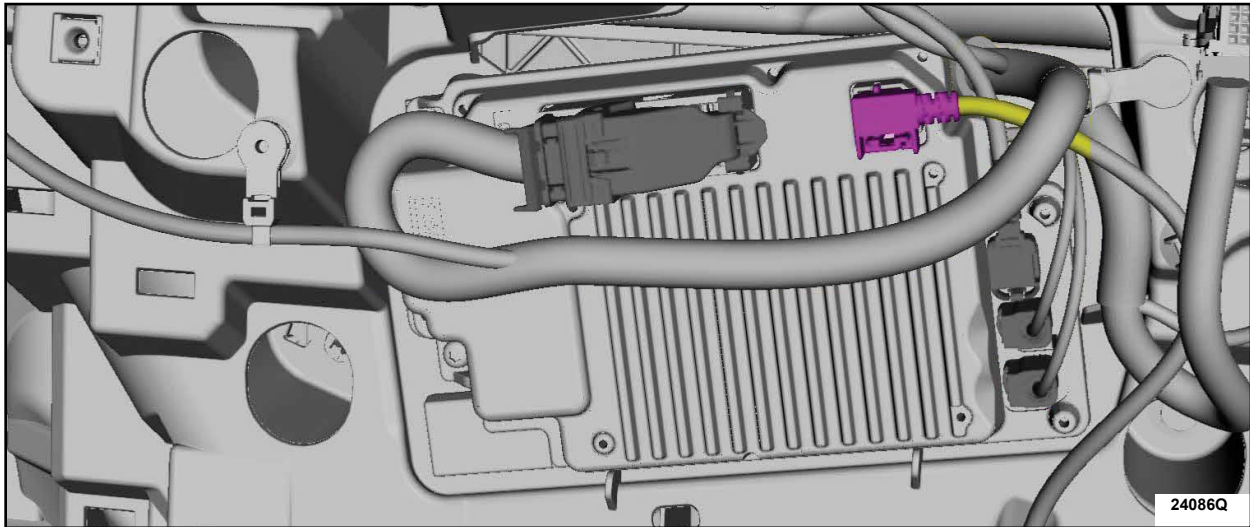

FIGURE 15
16. Connect the USB cable connection to the APIM. See Figure 15.